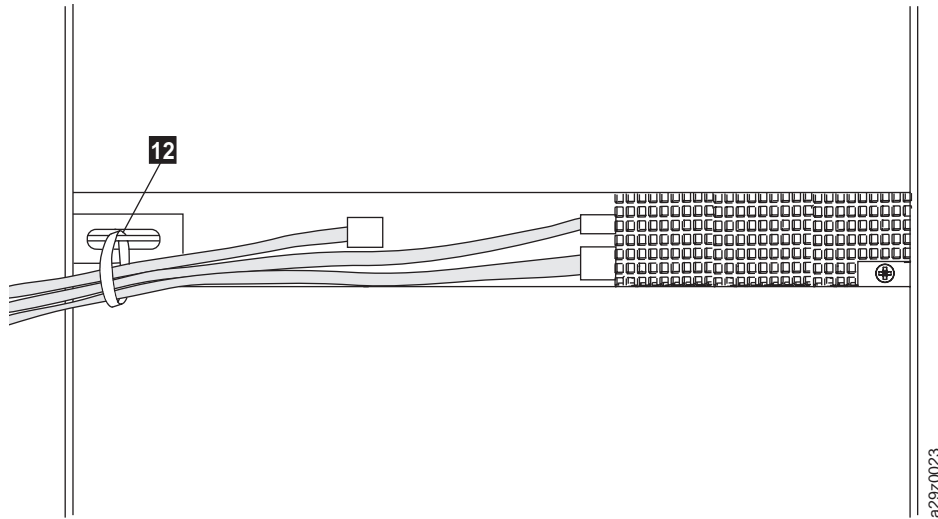

Figure 151. The cables at the rear of the library
- Run the SAS cable, power cable, and Ethernet cable through the hook-and-loop fastener strap **12**, then tighten the strap (Figure 151 on page 153)